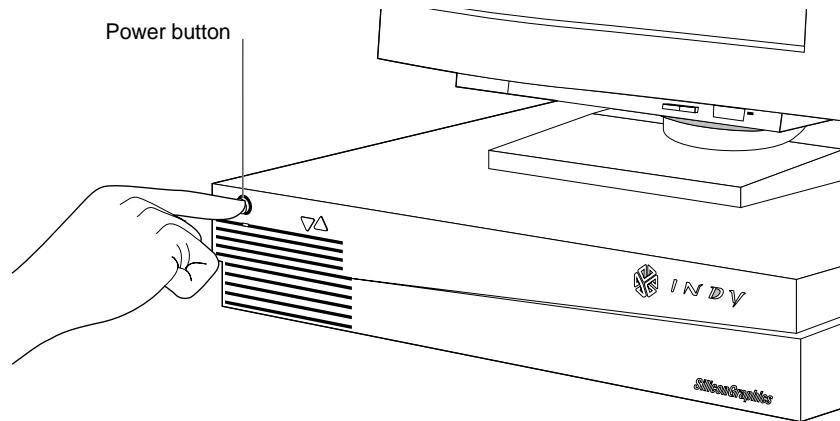

Figure D-1 Turning on the Power on the Indy Workstation
1. After you've assembled the workstation, turn on the power, as shown in Figure D-1.
- Press the power button to turn on the system, as shown in Figure D-1.